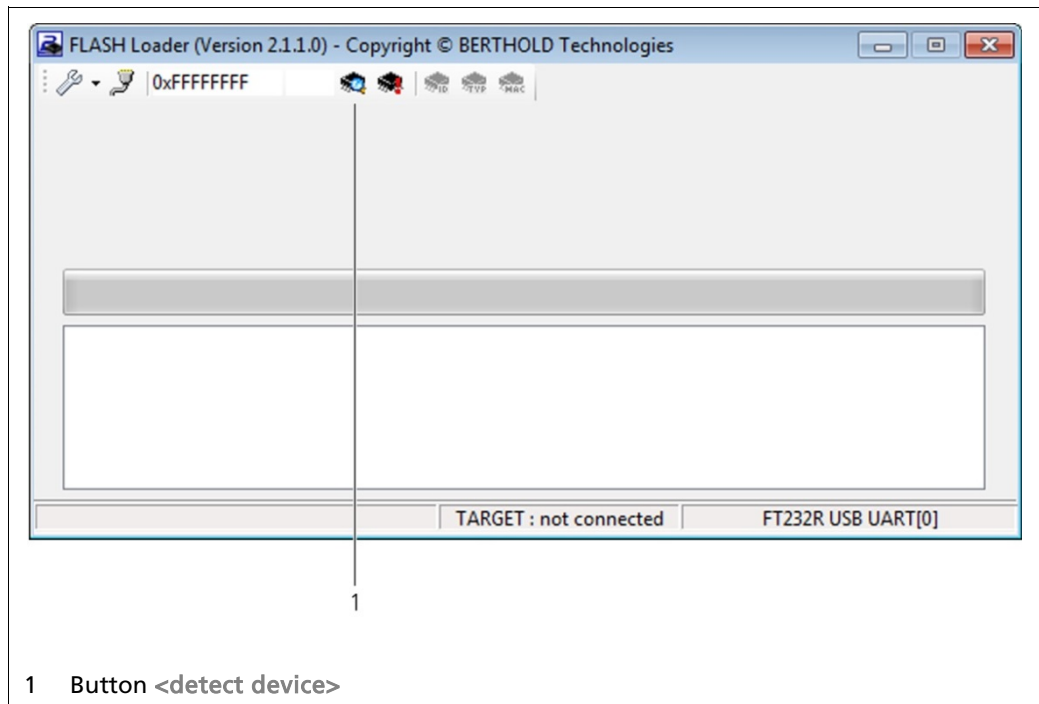

Fig.13 Flash Loader Main Screen
10. Click on the button <detect device> (Fig.13, item 1).